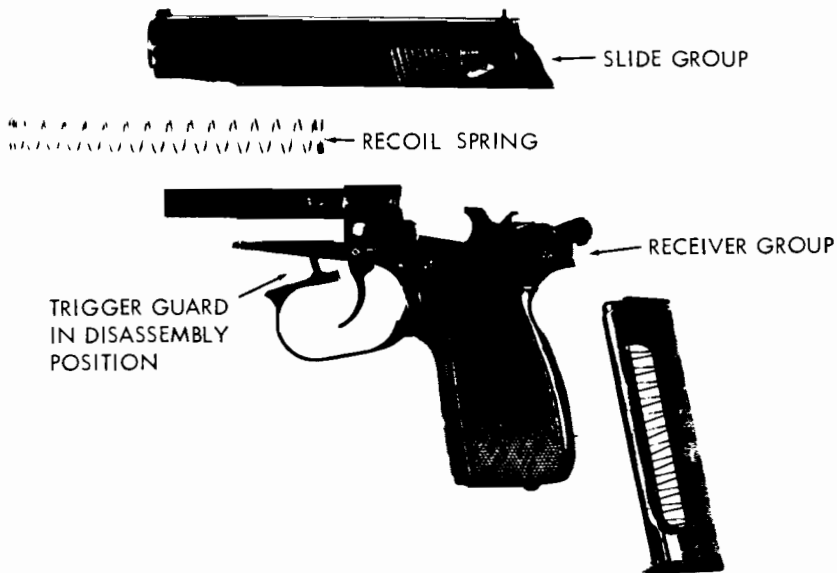

Figure 2. Makarov pistol, field-stripped.
b. Pull the front of the trigger guard down and, when it is clear of the receiver, press it to one side; then rest it against the receiver (fig. 2).